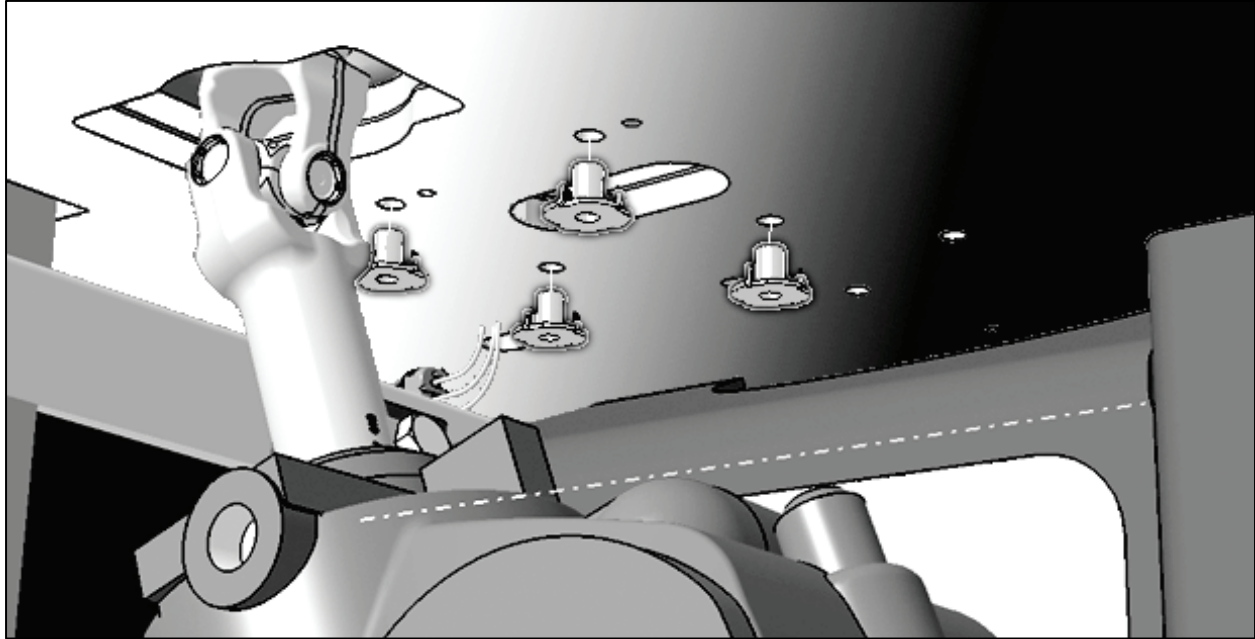

Figure 4
13. Replace brake pedal by #145262 (Fig.4)